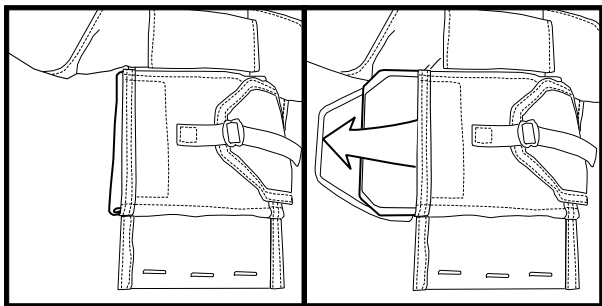

Figure 12. Removing ESBI Plates (IOTV shown).
- Remove ESBI plates from side carriers, if installed (Figure 12).